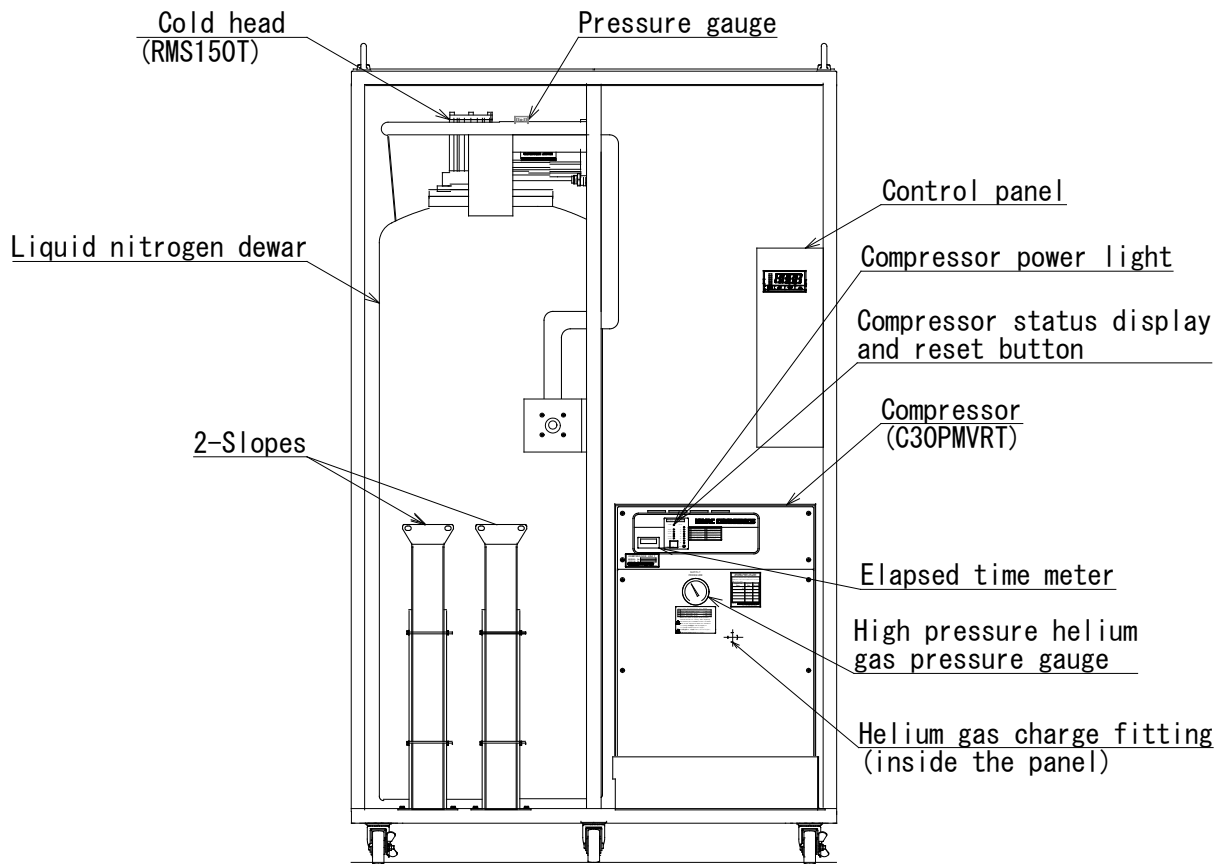

Figure 4-2 Inside view of UMP-40W front door and lower panel
4.2 Inside view of UMP-40W front door and lower panel (**Figure 4-2**)